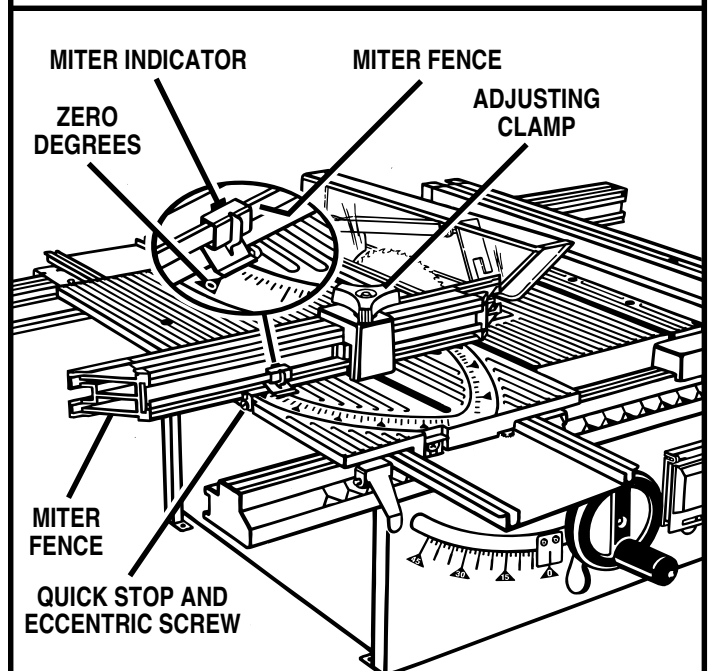

Figure 56: Quick Stop
2. Place the quick-stop against the miter fence with miter scale set at zero degrees. See Figure 56.